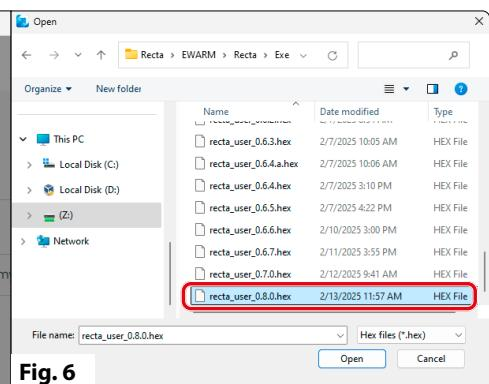

Fig. 6
5. Select the new firmware file to upload (Fig. 6)